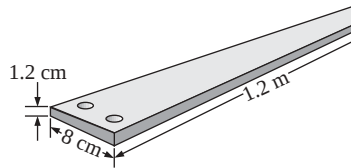

FIG. 3.28
- *1. a. What is the resistance of a copper bus-bar with the dimensions shown in Fig. 3.28 ($T = 20^\circ\text{C}$)?